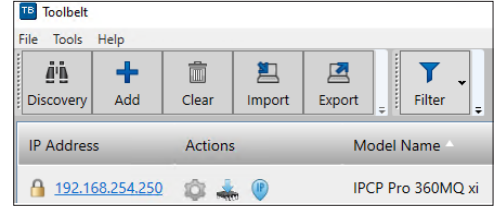

Figure 30. Discover with Toolbelt
2. Start Toolbelt and use it to discover the IPCP Pro 360MQ xi card (see figure 30):